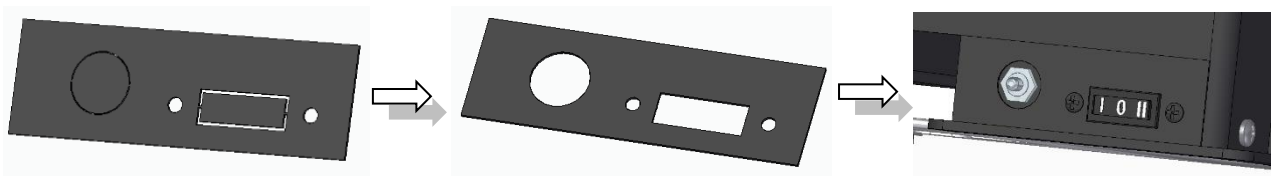

Figure 54 – Micro-switch attachment and On-Off button
c. Finally, you must put the micro-switch and the On-Off button in place, as shown in Figure 54.